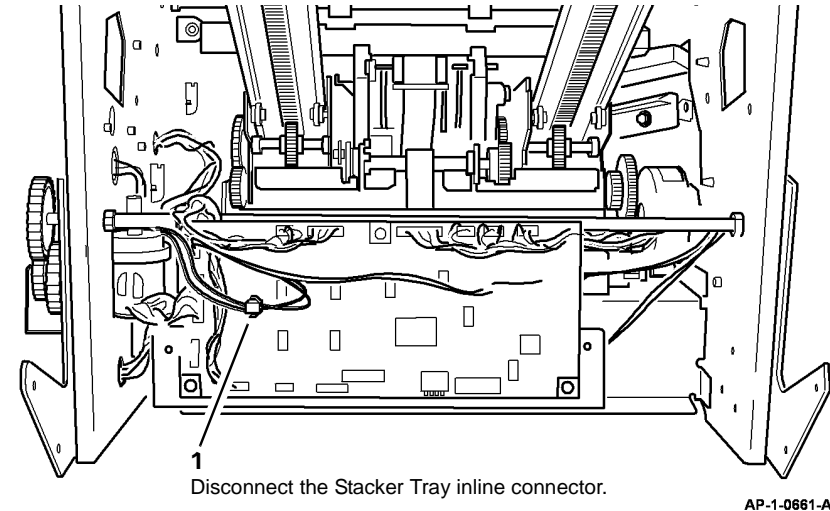

Figure 1 Inline connector
5. Disconnect the Stacker Tray Motor inline connector, Figure 1.